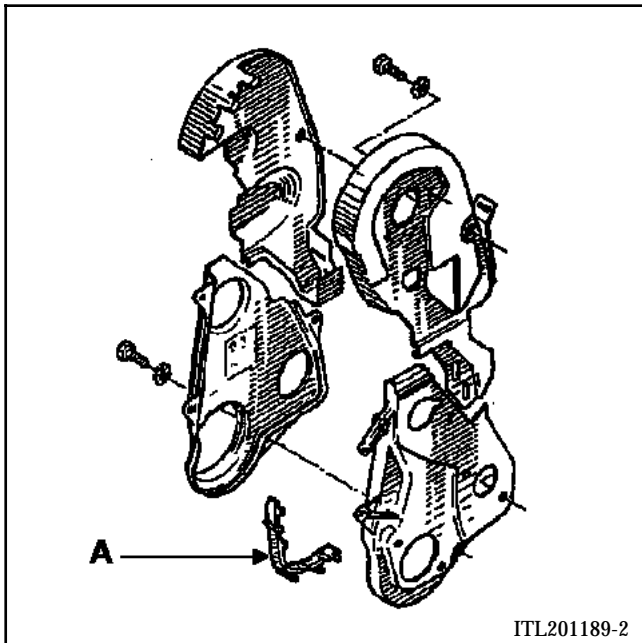

Fig. 2
- Replace the crankshaft pulley, the bolt and the accessories belt and timing gear cowl (Fig. 2 - page 16-3).
- Replace the timing gear cowl and the timing belt. (**Figure 2 - page 16-3**)